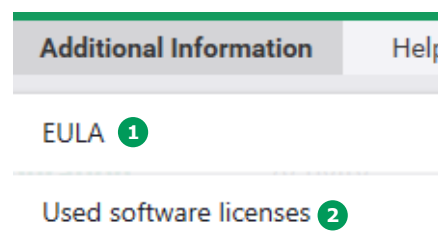
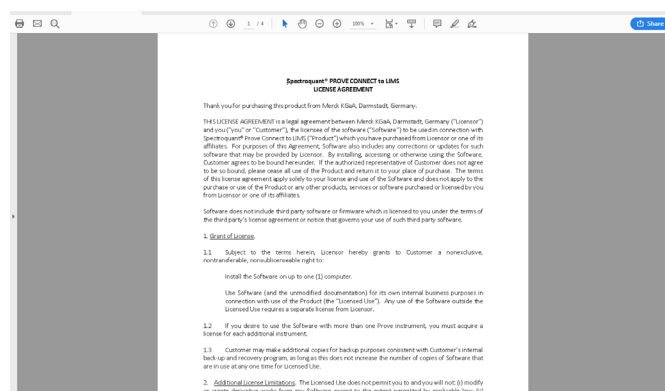
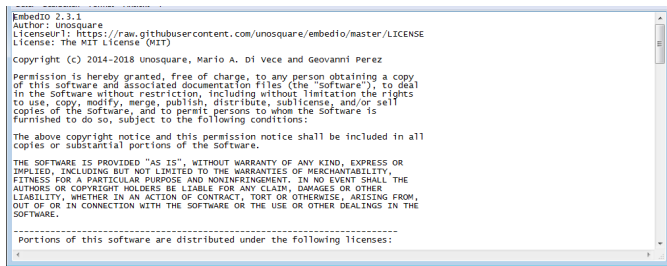

Figure 48 - Prove Connect's Additional Information
Figure 49 - Screenshot of EULA that was opened by clicking on the section in the previous window (Figure 48)
Figure 50 - Screenshot of “used software licenses” that was opened by clicking on the section in the previous window (Figure 48)
If you click on the EULA sub menu ① (Figure 48), a PDF document is opened in your default Windows application, e.g. the Adobe Acrobat reader (Figure 49).
If you click on the "Used software licenses" sub menu ② (Figure 48), a text file is opened in your standard Windows application, e.g. Notepad (Figure 50). The file lists the used third-party licenses and their copyright information.